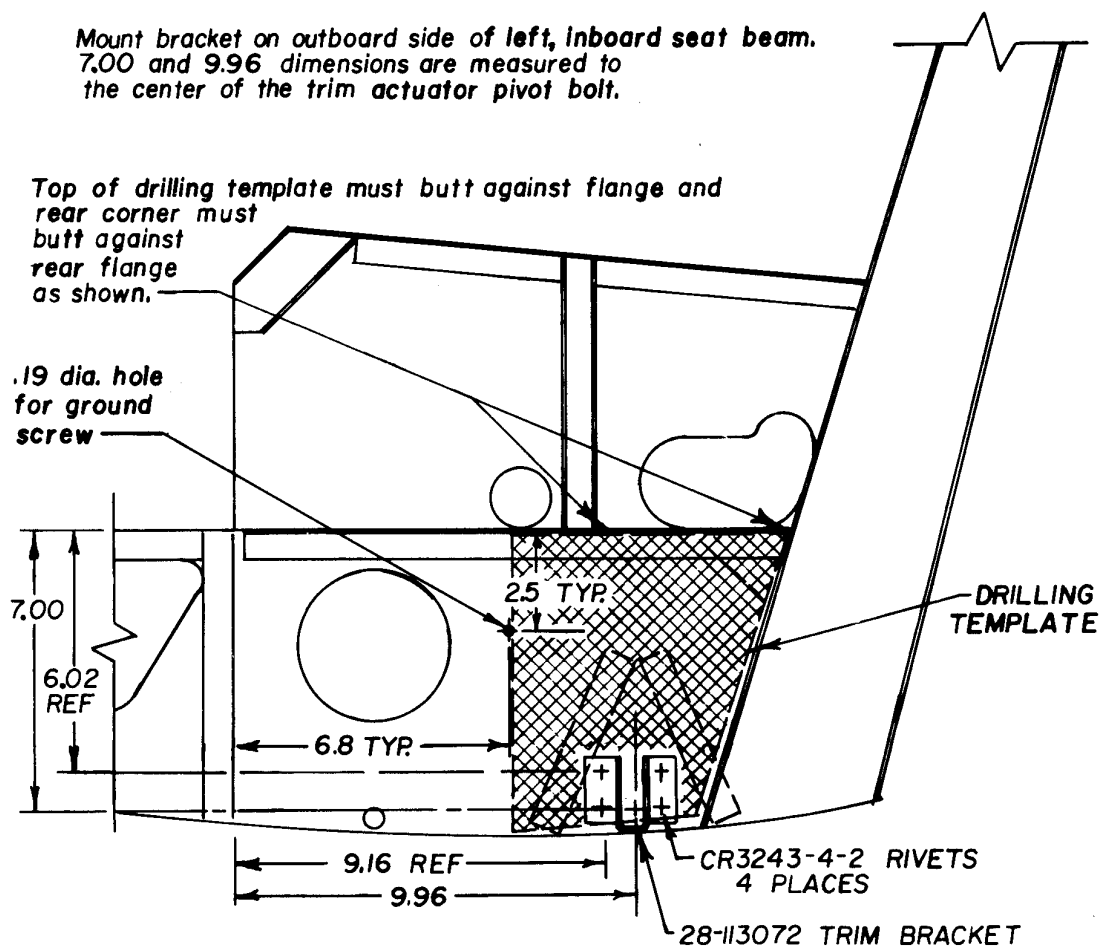

FIGURE 5 - Trim Actuator Bracket Location on
- 1. Position the drilling template from Section I as shown in Figure 5.
- 4. Drill a 3/16 inch hole above and forward of the bracket, as shown in Figure 5. (This hole will be used to attach the ground wire.)